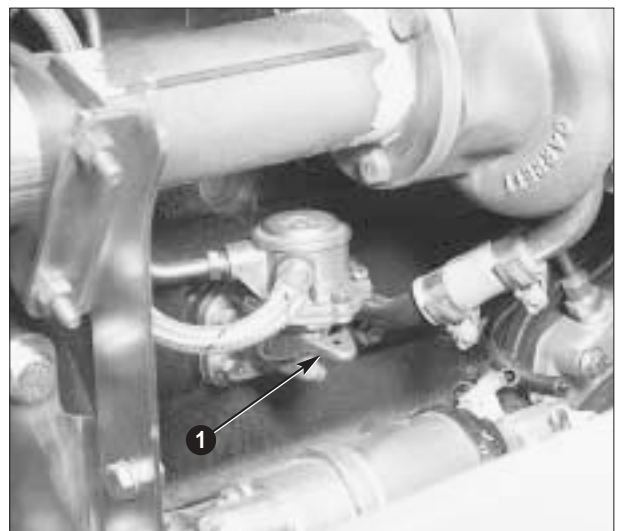

Fig. 59
2. Slowly activate the pump piston 1 fig. 59 on the lift pump until fuel without air runs out at the preheating nozzle. Gently tighten the pipe again.